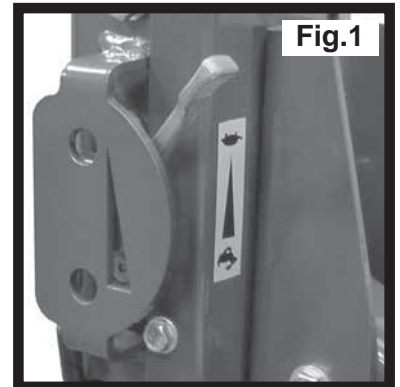
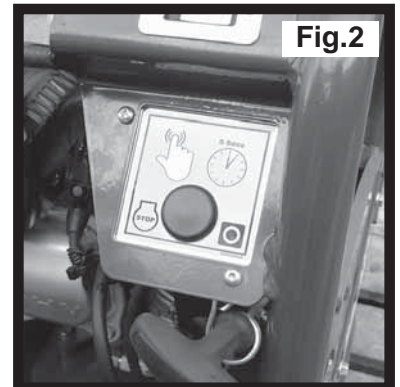

Fig.1
Fig.2
1. To stop the engine, set the throttle control to idle (See Fig. 1), then press and hold the red stop button for 5 seconds until the engine stops (See Fig. 2).
1. To stop the engine, set the throttle control to idle (See Fig. 1), then press and hold the red stop button until the engine stops (See Fig. 2).